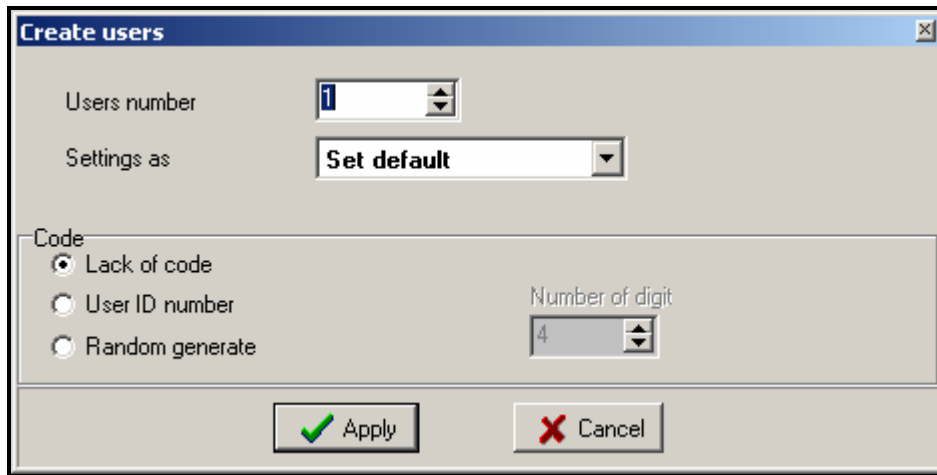

Fig. 22. Window for adding new users.
2. Click with your mouse on the icon designated ADD USER. The CREATE USERS window will be displayed (see Fig. 22).
7. Having defined settings of the group, you can assign users to it. The users created earlier can be assigned to the group, e.g. by the "drag and drop" method. The newly created users will be assigned to a selected group, if exactly that group is selected in the SETTINGS AS field of the CREATE USERS window (see ADDING NEW USERS BY MEANS OF ACCO-SOFT-LT PROGRAM and Fig. 22).